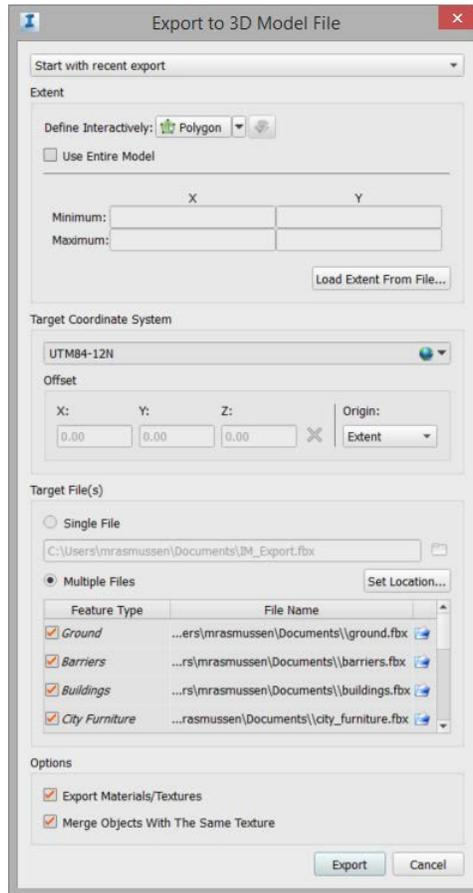

Figure 33
- In the Export to 3D Model File dialog box, do the following, as shown in Figure 33: